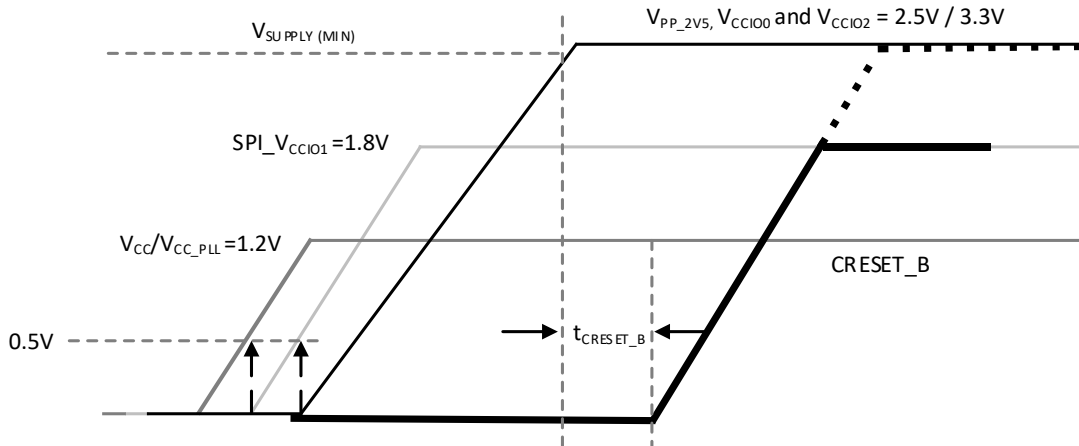
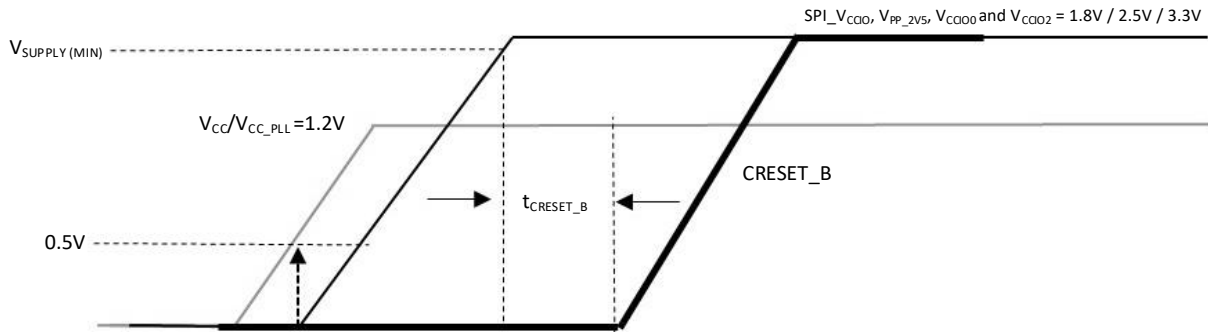

Figure 4.1. Power Up Sequence with SPE\_VCCIO1 and VPP\_2V5 Not Connected Together
Figure 4.2. Power Up Sequence with All Supplies Connected Together to 1.8 V
**Note:** To check the  $V_{\text{SUPPLY(MIN)}}$  shown in Figure 4.1, please refer to the minimum recommended operation conditions in the Recommended Operating Conditions section.
When all power supplies have reached their minimum operating voltage defined in Table 4.2, it is required to either keep CRESET\_B LOW, or toggle CRESET\_B from HIGH to LOW, for a duration of  $t_{\text{CRESET\_B}}$ , and release it to go HIGH, to start configuration download from either the internal NVCM or the external Flash memory. Figure 4.1 shows Power-Up sequence when SPI\_VCCIO1 and VPP\_2V5 are not connected together, and the CRESET\_B signal triggers configuration download. Figure 4.2 shows when SPI\_VCCIO1 and VPP\_2V5 are connected together. All power supplies should be powered up during configuration. Before and during configuration, the I/Os are held in tri-state. I/Os are released to user functionality once the device has finished configuration.